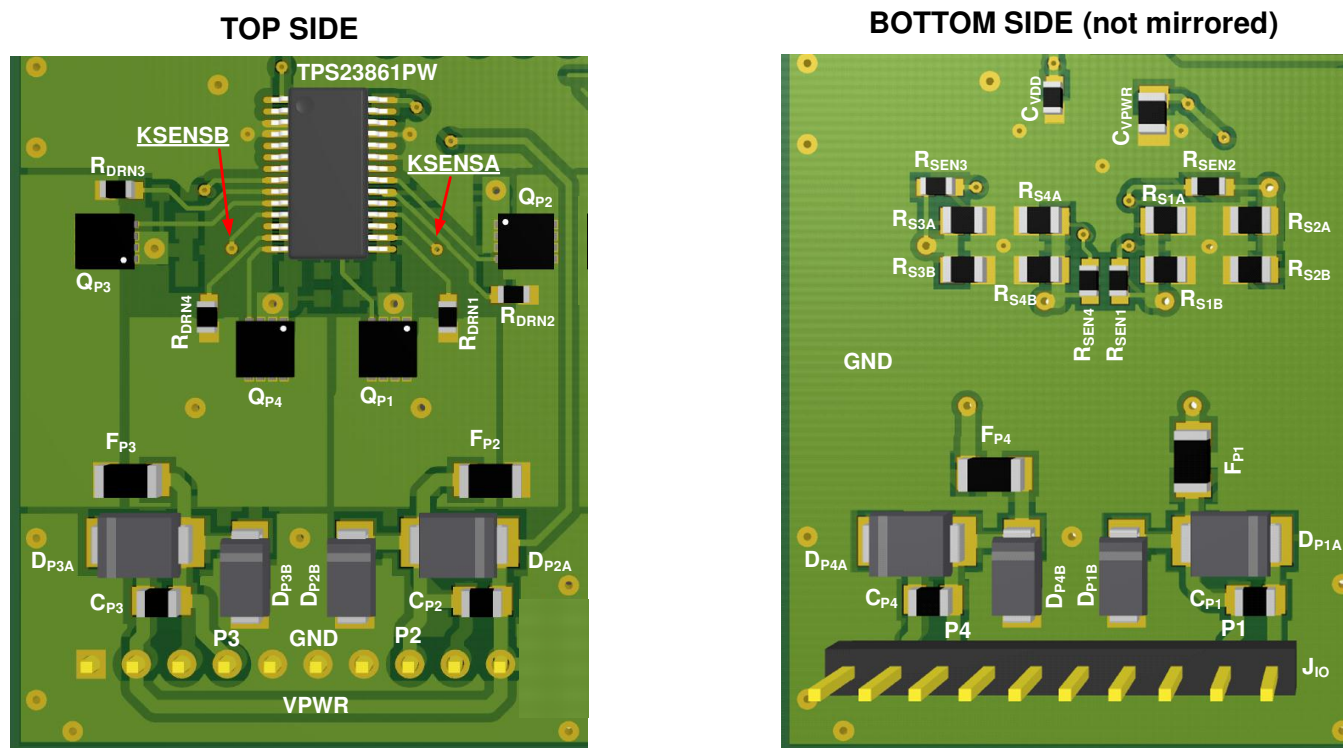

Figure 61. Four Port Layout Example
**CVPWR**: Place close to pin 28 (VPWR) and connect with low inductance traces and vias according to Figure 61.
**CVDD**: Place close to pin 1 (VDD) and connect with low inductance traces and vias according to Figure 61.
**QPn**: Place QPn around the TPS23861 as illustrated in Figure 61. Provide sufficient copper from QPn-D to FPn.
**RDRNn**: Place RDRNn near to QPn-D. Connect to DRAINn pins as illustrated in Figure 61.
**RSENn**: Place RSENn near to QPn-S. Connect to SENn pins as illustrated in Figure 61.
**FPn, CPn, DPnA, DPnB**: Place this circuit group near the RJ45 port connector (or port power interface if a daughter board type of interface is used as illustrated in Figure 61). Connect this circuit group to QPn-D / GND (TPS23861-AGND) using low inductance traces.